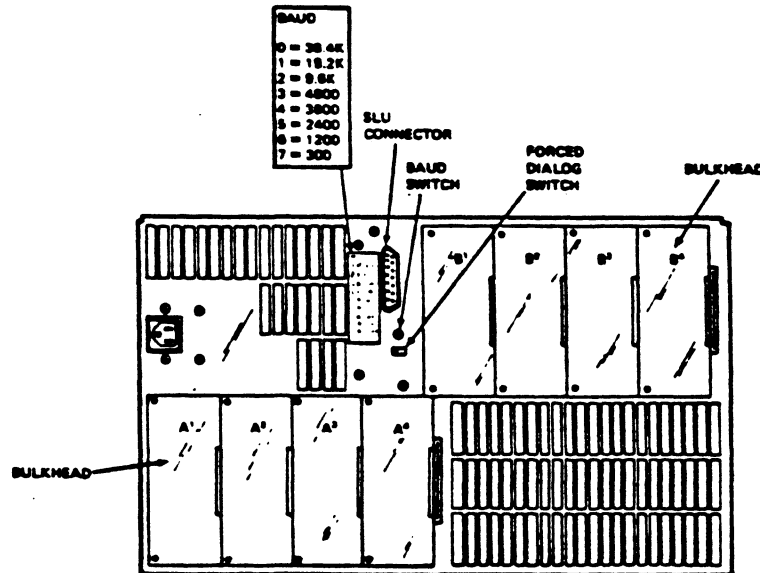

FIGURE 2-34 BULKHEAD LOCATION
10. Remove the blank rear bulkhead panel B1 by loosening the two phillips head screws that secure it to the bulkhead. See Figure 2-34.